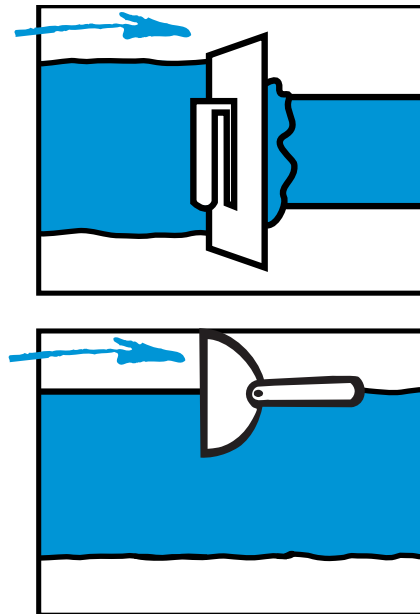
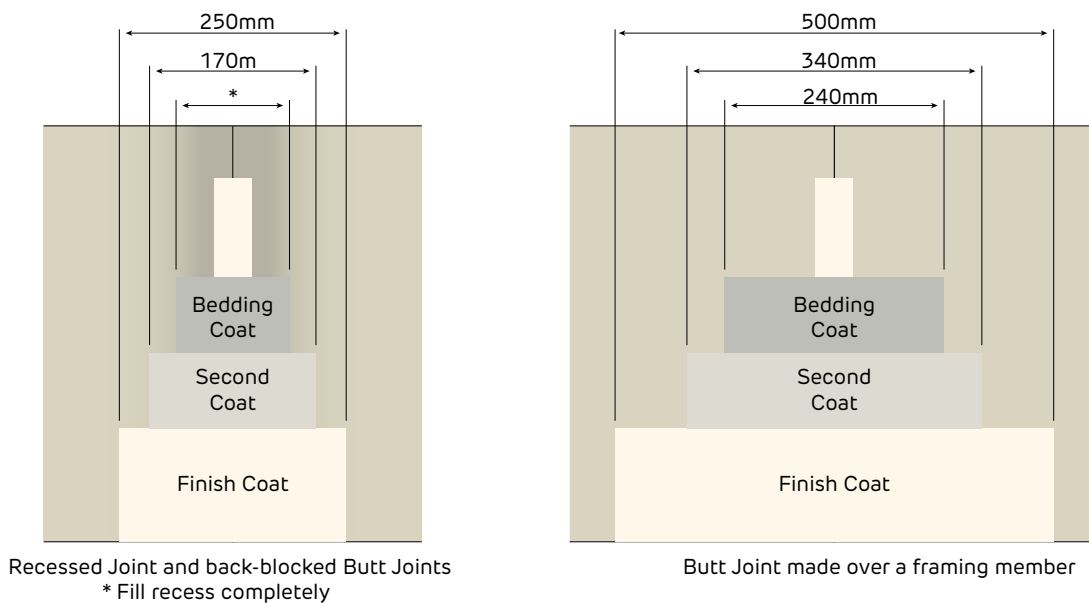

FIGURE 61 Second Coat
FIGURE 64 Minimum Coat Widths After Sanding
- > Using a 200mm trowel to apply a second coat of compound [Refer to Figure 61 and to Figure 64 for minimum coat widths]
- > Use a 280mm trowel to apply a third coat of compound [Refer to Figure 62 and to Figure 64 for minimum coat widths]